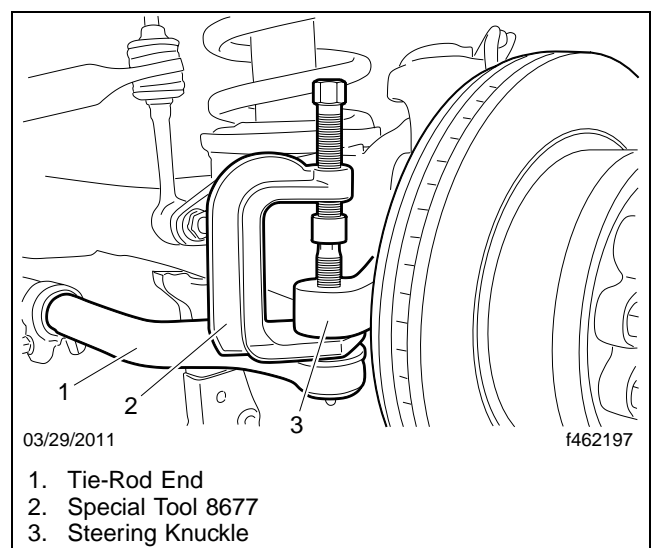

Fig. 2, Tie-Rod End Removal
8. Using special tool 8677, remove the tie rod from the steering knuckle. See **Fig. 2**.